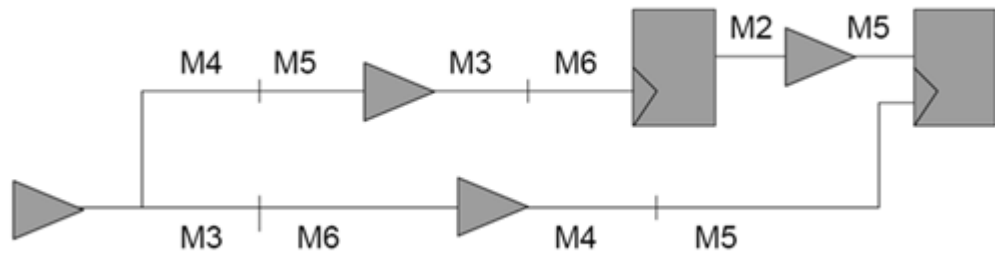

Figure 6.2 : Worst case timing for 6 layers interconnection.
- (c) Consider Figure 6.2, what is the combination of thicknesses and widths for 6 layers interconnection (M1-M6) which gives the worst setup/hold. Can this information be obtained in this case? Describe the statistical tool that can provide this information.